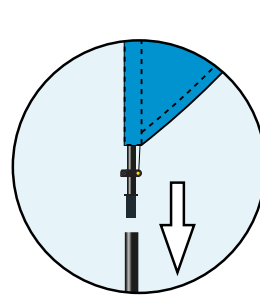

Fig 13.
12. Add the 2.5m (45mm) bottom section onto the joint of the top section. (Fig 13)